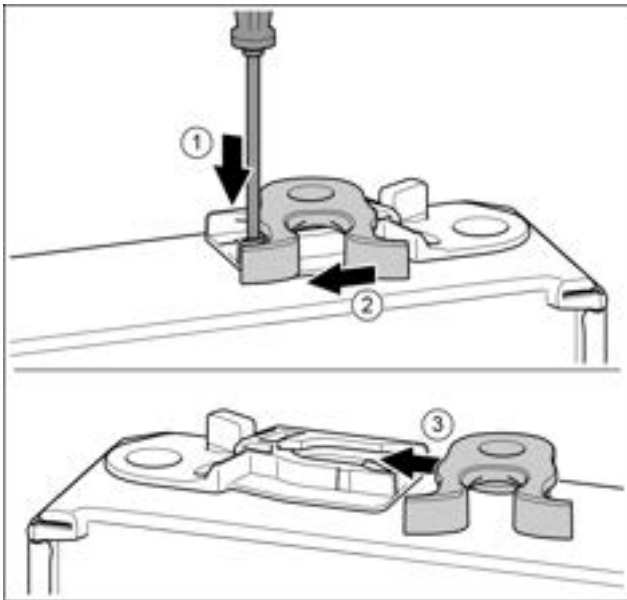

Fig. 18 \*
- ▶ Push the tab downwards with a slotted screwdriver. Fig. 18 (1) \*
- ▶ Pull the door latch out of the guide. Fig. 18 (2) \*
- ▶ Push the door latch into the guide on the other side. Fig. 18 (3) \*